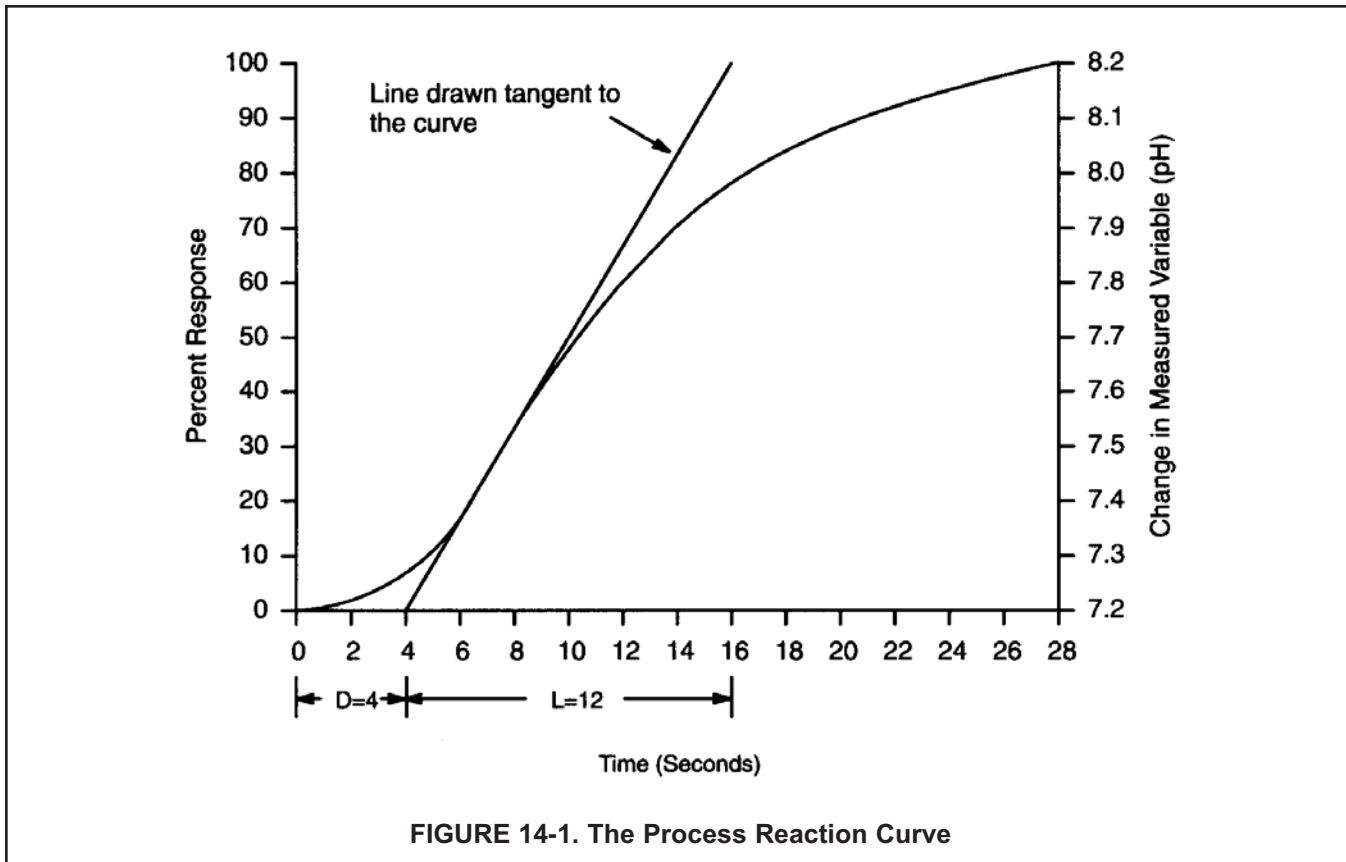

FIGURE 14-1. The Process Reaction Curve
The process reaction curve graphically shows the reaction of the process to step change in the input signal. Figure 14-1 shows an example of a tuning process for a pH controller. Similar results can be obtained for the oxygen, ozone, or chlorine controller.
Graph the change in the measured variable (concentration or pH) as shown in Figure 14-1. Observe the reading on the Model 54eA controller and note values at intervals timed with a stop watch. A strip chart recorder can be used for slower reacting processes. To collect the data, perform the following steps:
5. The reaction of the system, when graphed, will resemble Figure 14-1, showing a change in the measured variable over the change in time. After a period of time (the process delay time), the measured variable will start to increase (or decrease) rapidly. At some further time the process will begin to change less rapidly as the process begins to stabilize from the imposed step change. It is important to collect data for a long enough period of time to see the process begin to level off to establish a tangent to the process reaction curve.
A line is drawn on the process reaction curve tangent to the curve at point of maximum rise (slope) as shown in Figure 14-1. The Time Delay (D), or lag time, extends from "zero time" on the horizontal axis to the point where the tangent line intersects the time axis. The Response Time period (L), extends from the end of delay period to the time at which the tangent line intersects the 100% reaction completion line representing the process stabilization value. The ratio (R) of the Response Time period to the Time Delay describes the dynamic behavior of the system.
In the example shown in Figure 14-1: